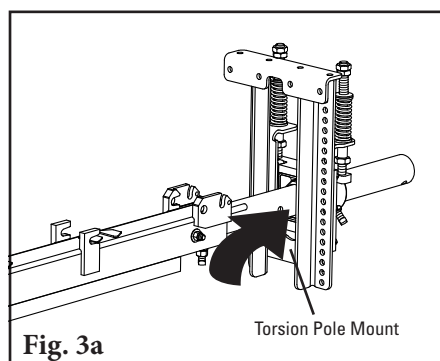
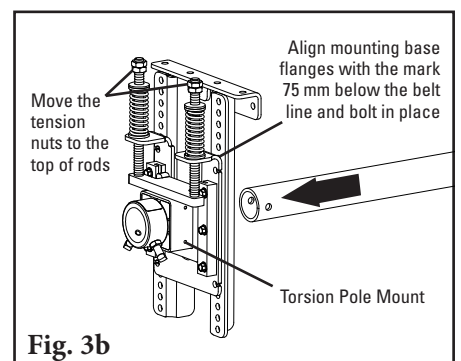

Fig. 3a
Fig. 3b
3. **Install the pole.** Remove the cartridge from the pole. Slide the pole into the SST torsion pole mount as far as needed (Fig. 3a). Then, slide the other end into the CST tensioner torsion pole mount and attach the mounting base to the long bracket, aligning the flanges with the previously marked position (Fig. 3b). Adjust tension nuts to the tops of the adjusting rods.
**3. Install the pole.** Remove the cartridges from the pole. Slide the pole into one CST torsion pole mount as far as needed (Fig. 3a). Then, locate the other end into the other CST tensioner torsion pole mount and attach the mounting base to the long bracket, aligning the flanges with the previously marked position. Adjust tension nuts to the tops of the adjusting rods (Fig. 3b).